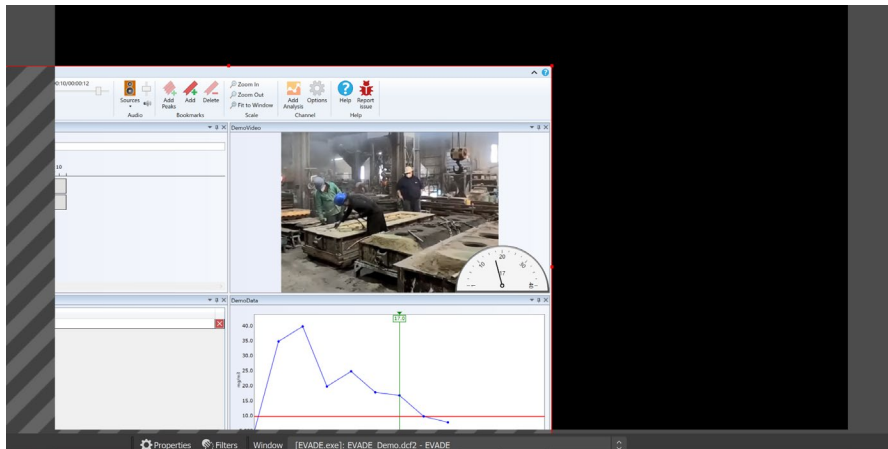

Figure 18 Recording window in OBS.
6. The size and location of your recorded window can be altered by grabbing the red box seen around your window and moving and resizing it (Figure 18).